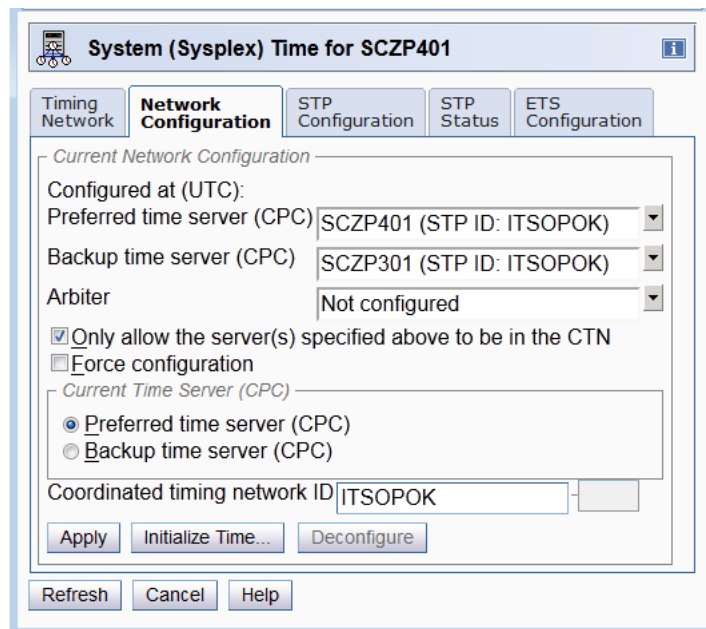

Figure 3-15 Configuring server roles in a two-CEC CTN
2. Assign the BTS, applicable for two or more servers (Figure 3-15). Do not select the **Force Configuration** check box, so that appropriate connectivity checks can be performed by STP.